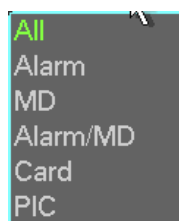

Figure 4-28
- Picture backup: Please set the corresponding time, channel and then select the type as PIC from the dropdown list. See Figure 4-28. Please click the Add button and then select the pictures. Click the Start button; you can copy the specified pictures to the selected portable devices.